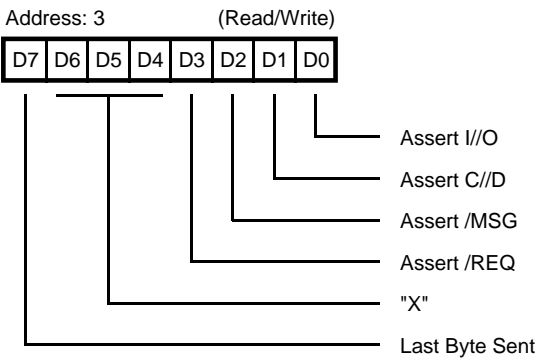

Figure 11. Target Command Register
**Bit 2. Monitor Busy.** The Monitor Busy bit, when True (1), causes an interrupt to be generated for an unexpected loss of /BSY. When the interrupt is generated due to loss of /BSY, the lower six bits of the Initiator Command Register are reset (0) and all signals are removed from the SCSI Bus.
**Bit 3. Enable/EOP interrupt.** The enable /EOP interrupt, when set (1), causes an interrupt to occur when the /EOP (End of Process) signal is received from the DMA controller logic.
**Bit 4. Enable Parity Interrupt.** The Enable Parity Interrupt bit, when set (1), will cause an interrupt (IRQ) to occur if a parity error is detected. A parity interrupt will only be generated if the Enable Parity Checking bit (bit 5) is also enabled (1).
**Bit 5. Enable Parity Checking.** The Enable Parity Checking bit determines whether parity errors are ignored or saved in the parity error latch. If this bit is reset (0), parity is ignored. Conversely, if this bit is set (1), parity errors are saved.
**Bit 6. Targetmode.** The Targetmode bit allows the SCSI to operate as either a SCSI Bus Initiator, bit reset (0), or as a SCSI Bus Target device, bit set (1). If the signals /ATN and /ACK are to be asserted on the SCSI Bus, the Targetmode bit must be reset (0). If the signals C//D, I//O, /MSG, and /REQ are to be asserted on the SCSI Bus, the Targetmode bit must be set (1).
**Target Command Register.** Address 3 (Read/Write). When connected as a target device, the Target Command Register (Figure 11) allows the CPU to control the SCSI Bus Information Transfer phase and/or to assert /REQ by writing this register. The Targetmode bit (Mode Register, bit 6) must be True (1) for bus assertion to occur. The SCSI Bus phases are described in Table 2.